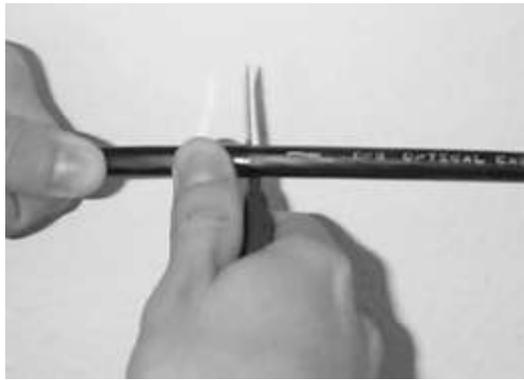

Figure 2 – Ring cut the cable sheath.
4.2 Use a cable sheath knife to ring cut the cable at the measured mark. Lightly score the cable jacket rather than cut all the way through (Figure 2).